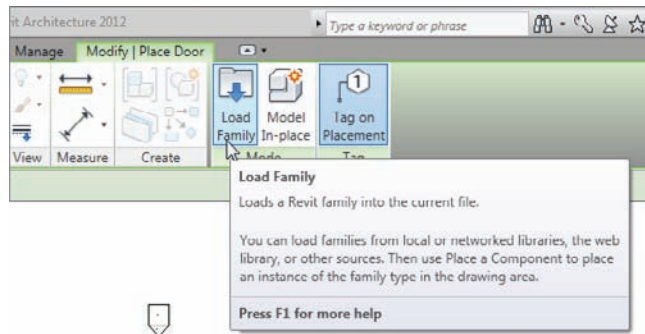

FIGURE 1.53 You can load an .rfa file during the placement of a hosted family.
4. On the Modify | Place Door tab, click the Load Family button, as shown in Figure 1.53. This opens the Load Family dialog.